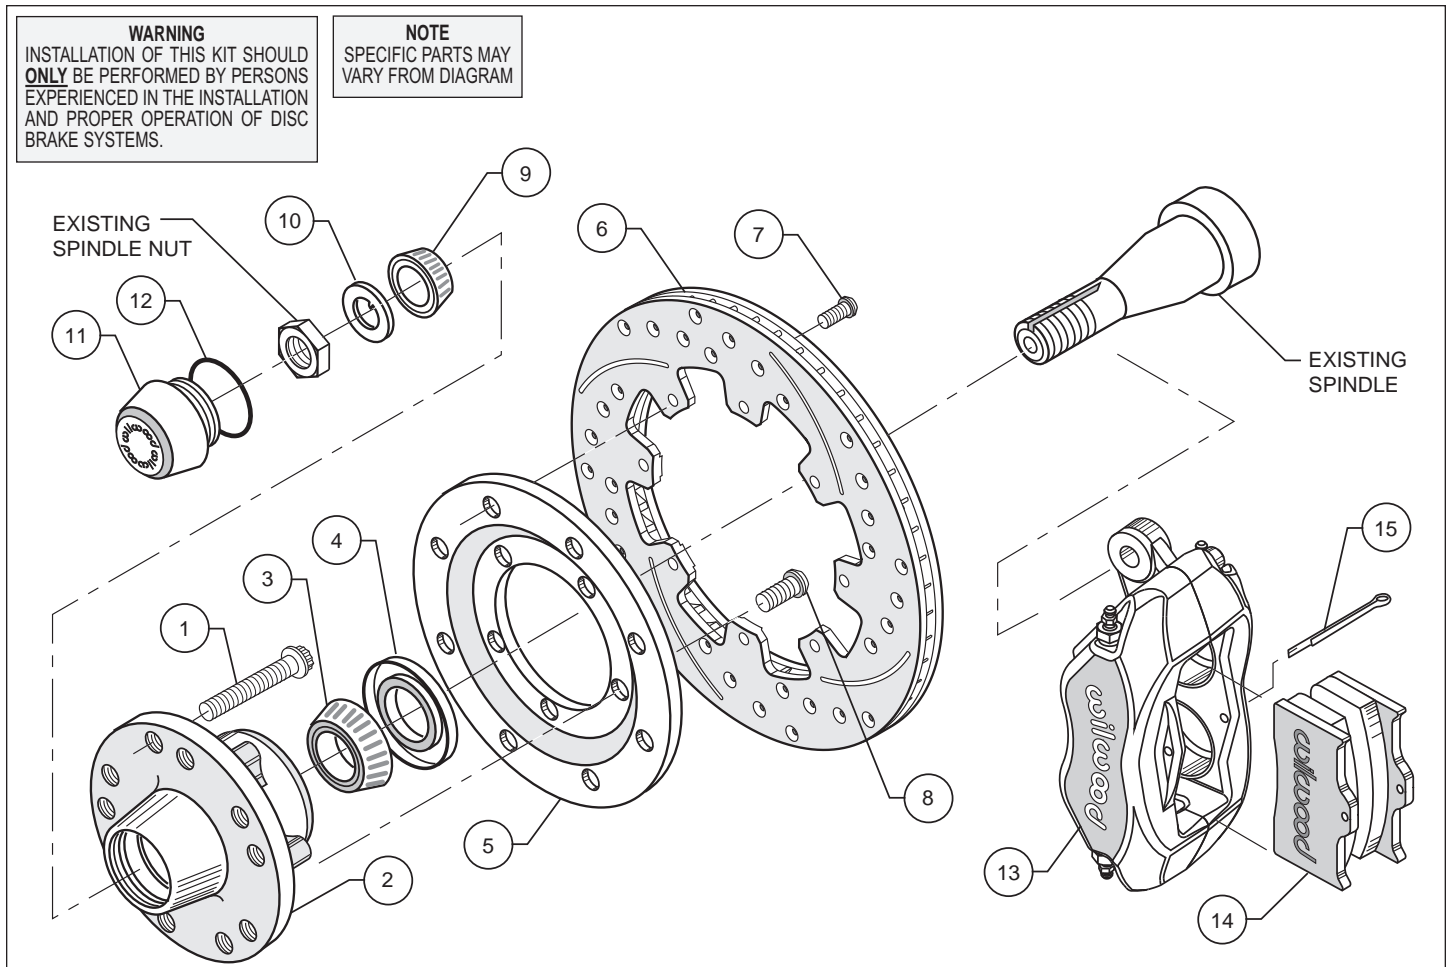

Figure 1. Typical Installation Configuration
•Install wheel studs (1) into the hub (2). Torque to 77 ft-lb. **NOTE:** There are two lug patterns of five holes each in the hub (5 x 4.50 and 5 x 4.75). Make sure of the correct hole pattern for the wheel application before installing the studs into the hub.
•Orient the rotor (6) and the rotor adapter (5) as shown in Figure 1. Attach the rotor to the adapter using bolts (7). Using an alternating sequence, apply red *Loctite*® 271 to the threads, and torque to 25 ft-lb.
•Mount the adapter/rotor assembly (5/6) to the hub (2) using bolts (8), as shown in Figure 1. Using an alternating sequence, apply red *Loctite*® 271 to the threads, and torque to 45 ft-lb.
•Pack the large inner bearing cone (3) with high temperature disc brake bearing grease (available from your local auto parts store) and install into the backside of the hub (2).
•Install the grease seal (4) by pressing into the backside of the hub (2).
•Pack the small outer bearing cone (9) with high temperature disc brake bearing grease and install into front of hub (2). Slide the hub assembly (2, 3, 4 and 6) with outer bearing cone (9) onto the spindle. Secure using spindle washer (10), stock adjusting nut and nut locking device. Adjust bearings per Original Equipment Manufacturer (OEM) specifications.
•Install the o-ring (12) and the dust cap (11) onto the hub (2). Friction created by the o-ring (12) on the dust cap (11) keeps it from unscrewing on its own.
•**NOTE:** Please reference the caution statement at the beginning of the assembly instructions. Mount the caliper (13) to your bracket (supplied by spindle manufacturer) using bolt (16) and washer (17) slid through the mounting ears of the caliper (13) with one shim washer (18) placed between the caliper mounting bracket and the caliper (13). Finger tighten. View the rotor (6) through the top opening of the caliper (13). The rotor (6) should be aligned in the center of the caliper (13). If not, adjust the caliper (13) by using 0.032 inch thick shims (18) placed between the bracket and the caliper (13). Finger tighten and recheck alignment. Apply red *Loctite*® 271 to bolt threads (16) and torque to 40 ft-lb.
•Install the disc brake pads (14) and secure using cotter pin (15).